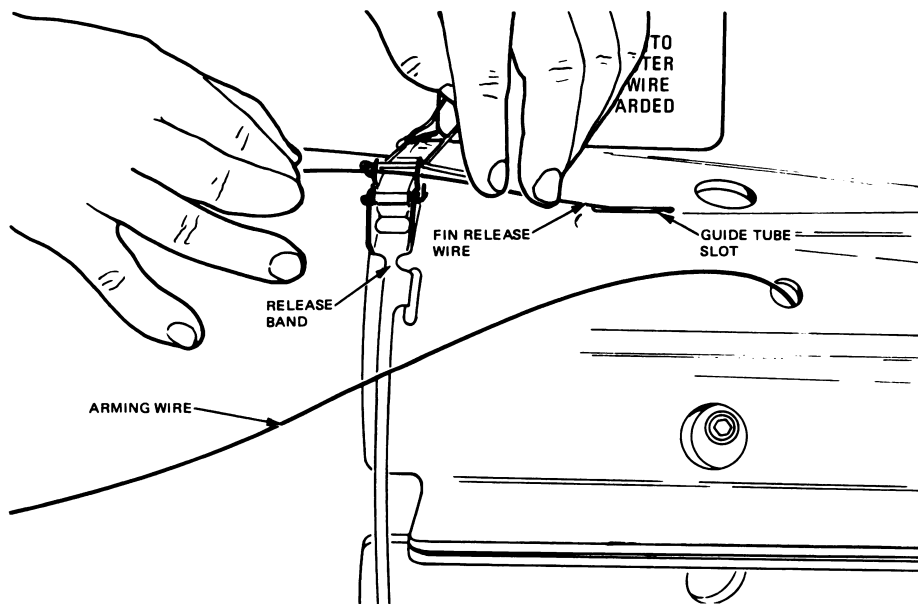

Figure 12-51.—Fin release wire routing (Mod 3 and Mod 4 fins).
16. Install a fin release wire through the release band and into the slot in the top of the fin blade. (See figure 12-51.) Feed the wire into the slot in the fin blade until it emerges from the